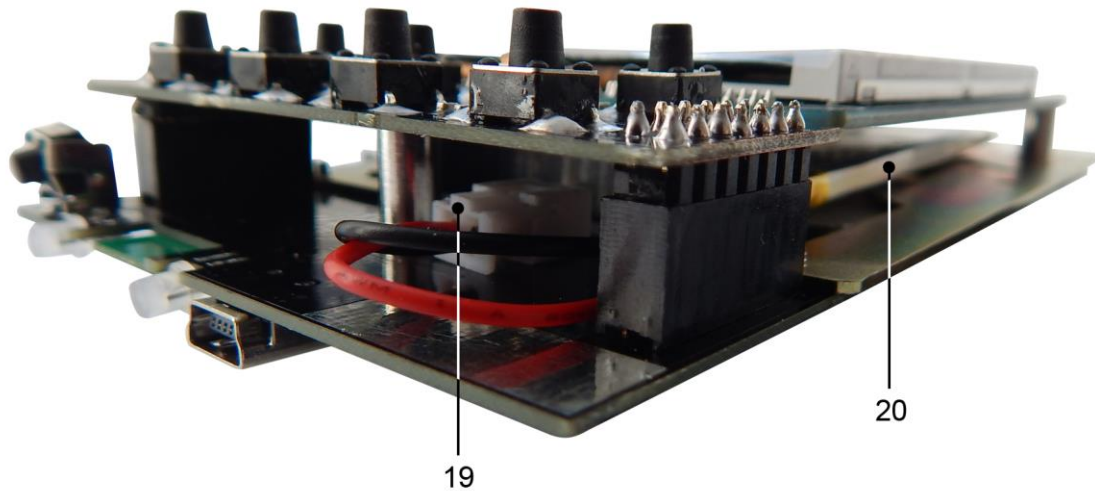

Figure 93 – Battery replacement
10.3.6. The battery (20) is located on the chassis under the screen module and secured with double-sided tape. Carefully disconnect the battery connector (19) from the connector on the circuit board, under the control button module (Figure 93). Remove the old battery (20) and remove the old double-sided tape that attached it to the chassis.